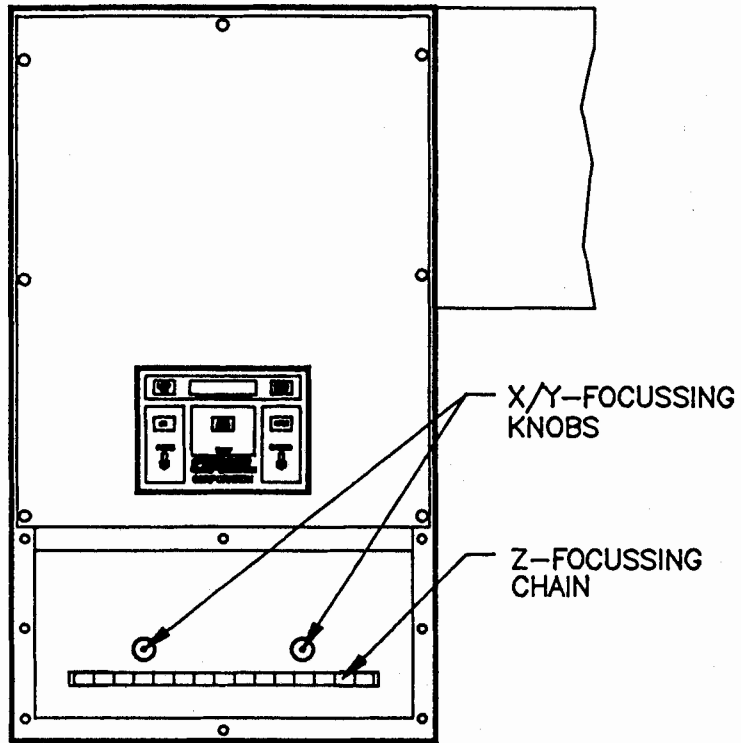

Fig.4.FOCUSSING THE LAMP
- 2) Remove small lamp adjustment access panel from lamphousing and identify the chain ladder (Z-focusing) and 2 knobs (X/Y-focusing)-see Fig.4.
- 6) Focus lamp in Z axis. To do this, slide chain ladder (located in lamp adjustment compartment-Fig.4.) left or right until you achieve maximum intensity reading.